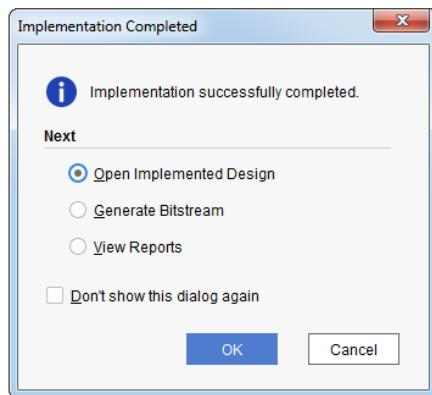

Figure 10.21: Implementation Completed dialog box
2. After the implementation is completed, the **Implementation Completed** dialog box will appear, see Figure 10.21.